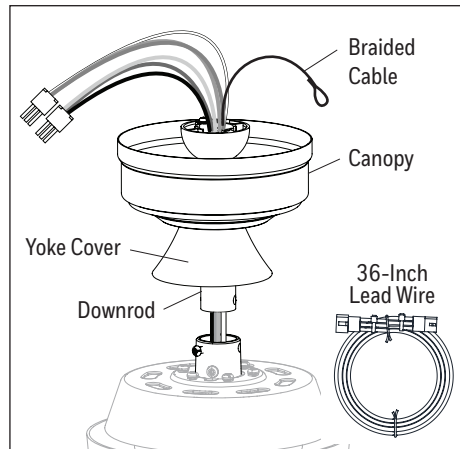

Figure 3.2
2. Insert the downrod through the canopy and yoke cover. Feed the wires and braided cable from the fan through the downrod and then through the downrod ball. Depending on the length of downrod you use, you may need to use the 36-inch lead wires to accommodate a 36 or 48-inch downrod (sold separately). When necessary, connect the 3-pin and 3-pin connector extending from the center of the downrod to one end of the 36-inch lead wires. **Note:** The downrod included with this fan will not utilize the 36-inch lead wires (Figure 3.2).